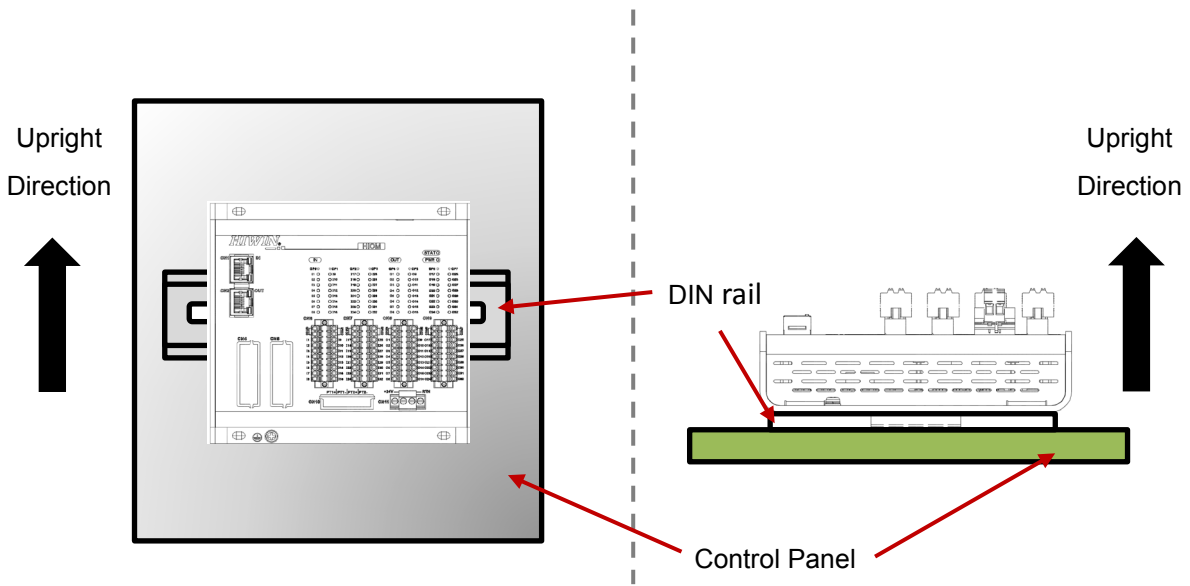

Figure 2-4 Recommended mounting orientation
- Step 3. Mount the product on the industrial control panel with the recommended orientation, as Figure 2-4 shows.